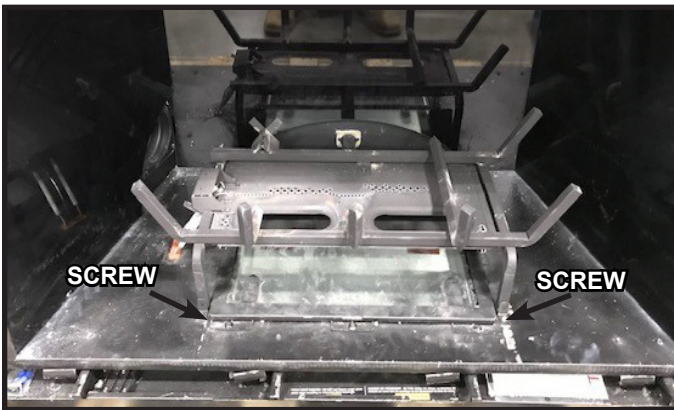
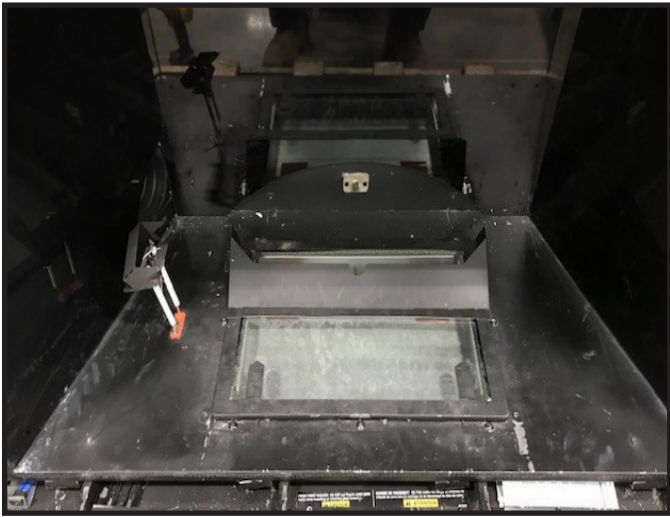

Figure 7 Right Base Refractory piece removed from appliance
Figure 10 Burner / Grate assembly removed from inside the firebox
10. Using a screw gun and a 1/4 in. driver bit, remove the two (2) screws shown in Figure 7 that fasten down the Burner and Grate Assembly to the bottom of the firebox. Pull the Burner and Grate assembly away from the back wall inside the firebox and towards yourself. Remove from the appliance. See Figure 10.